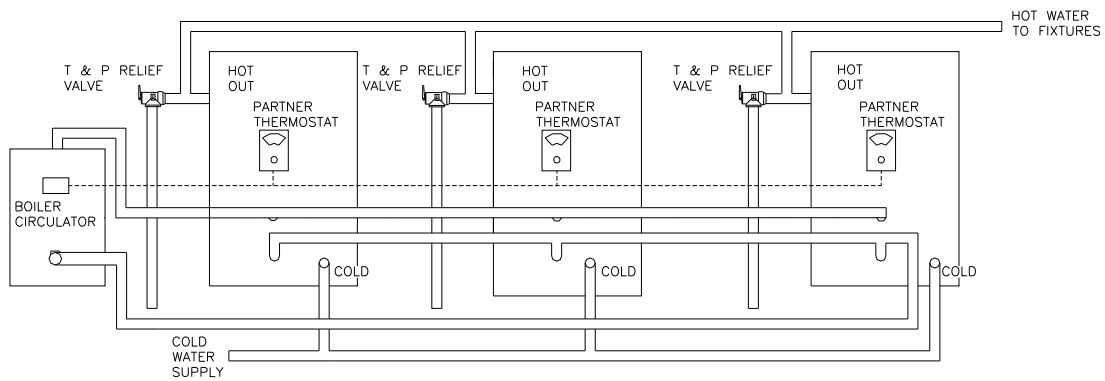

Figure 5: Installation of Multiple Water Heaters as Single Unit
4. **Multiple Water Heaters** installed as single unit. Install boiler water piping and domestic piping in parallel reverse return configuration. See Figure 5.